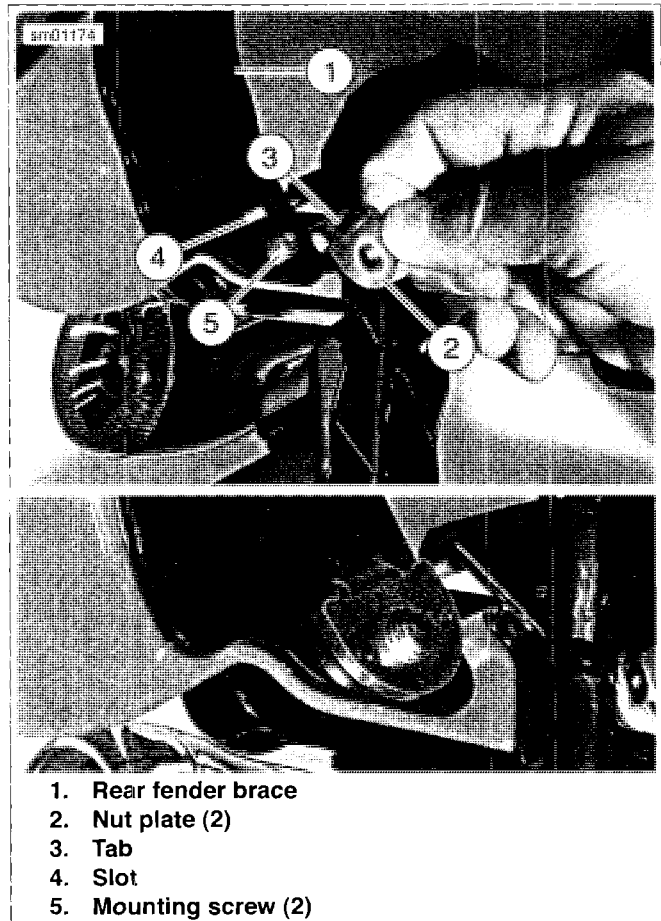

Figure 6-67. Rear Fender Nut Plate: XL 883N/XL 1200N (Domestic Only)
**XL 883N/XL 1200N (Domestic):** see Figure 6-67. Make certain that tab (3) on nut plate (2) fits into slot (4) in fender brace (1) when securing nut plate with rearmost fender mounting screw (5).